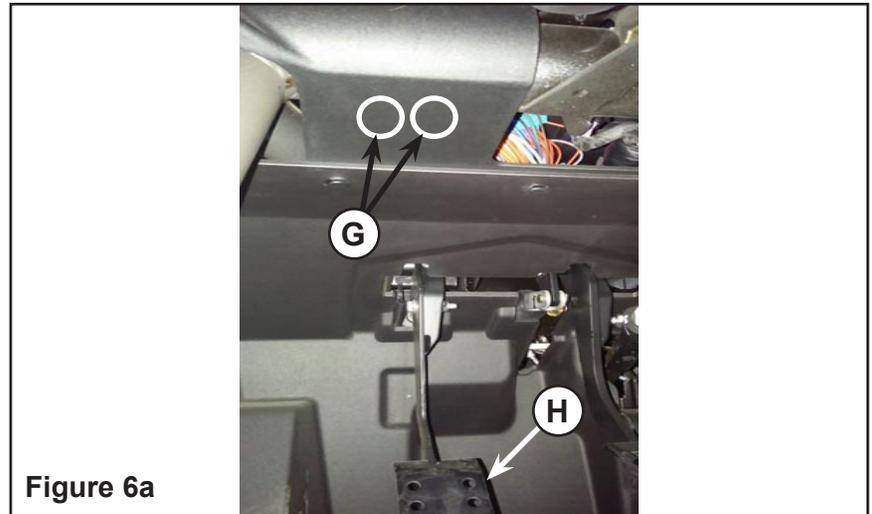
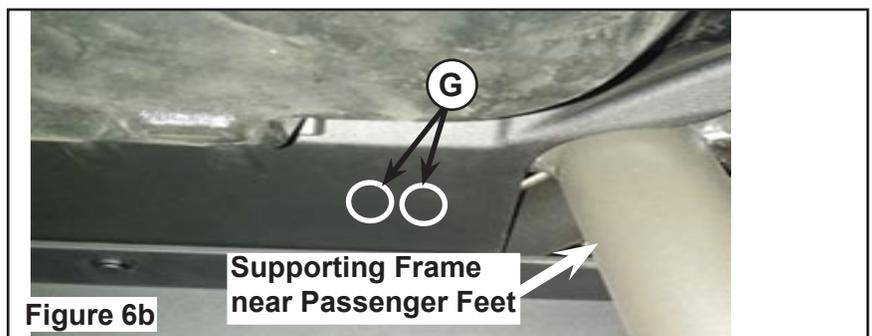
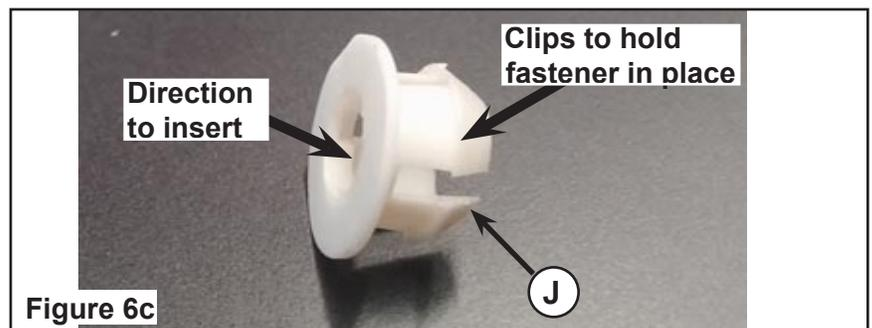

Figure 6a
Figure 6b
Figure 6c
- ECU Unit and Mount (D)
5. Drill two 23/64" sized holes (G) upward by the driver side feet as indicated in Figure 6a. Insert black locking fasteners (J) into the holes from above on the engine side (see Figure 6c for fastener (J) image shown in white for clarity).
- Clutch Pedal - (H)
6. Drill two 23/64" sized holes (G) upward by the passenger side feet as indicated in Figure 6b. Insert black locking fasteners into the holes from above on the engine side (see Figure 6c for fastener (J) image, shown in white for clarity).